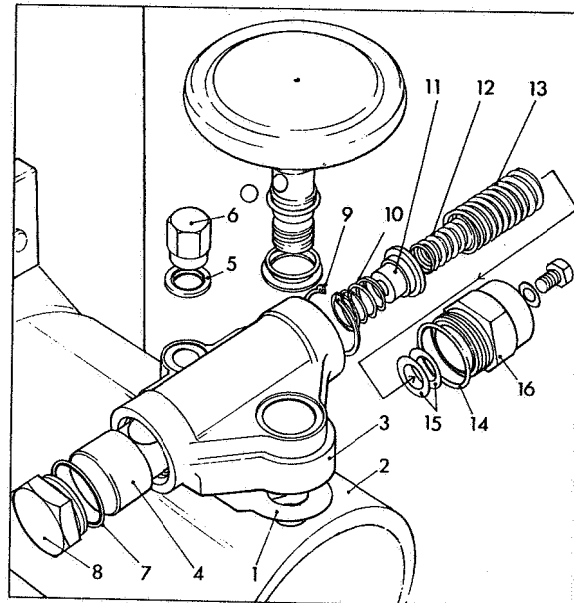

Fig 56 Assembling auto advance device
Offer up new housing gasket (1) Fig 56 to pump housing (2). Inspect piston housing (3) to ensure that blank end of piston (4) is towards the oil feed drilling end of piston housing. Assemble the housing and piston assembly to the pump housing ensuring that the cam advance screw engages with the piston and lightly secure it in place with cap nut washer (5) and cap nut (6).